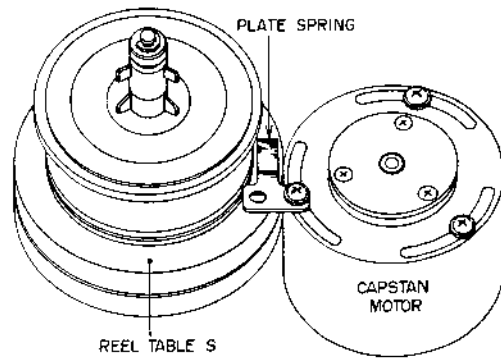
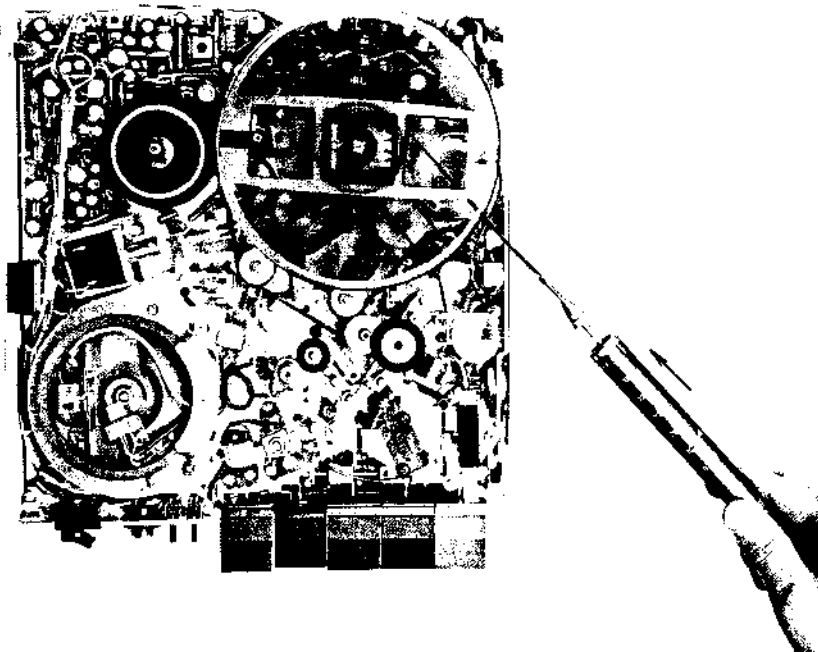

Fig. 1-10
Fig. 1-11
- d) Adjust tension to 8 to 10g by changing the angle of the plate spring installed on upper part of capstan motor. (Refer to Fig. 1-10)
(7) FAST FORWARD AND REWIND TORQUE MEASUREMENT
- a) As shown in Fig. 1-11, use the same reel described in Part (5), Item (a), and set reel on take-up reel table. Using a 0 to 500g spring gauge, and being careful not to induce tape slack, read gauge value at fast forward mode while the tape is being rolled onto reel. It is satisfactory if fast forward torque is within 200 to 300g.